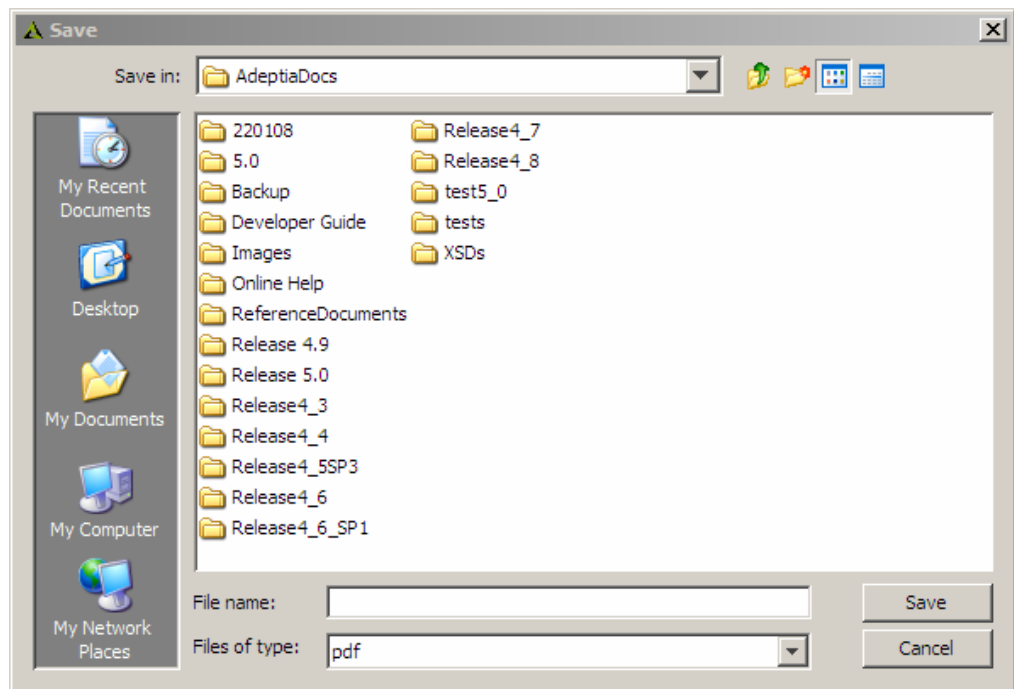

Figure 7.21: Save PDF
1. In Process Modeler, click **Generate PDF** (  ) button. The Save PDF screen appears to select the path, where PDF file will be saved (see Figure 7.21).